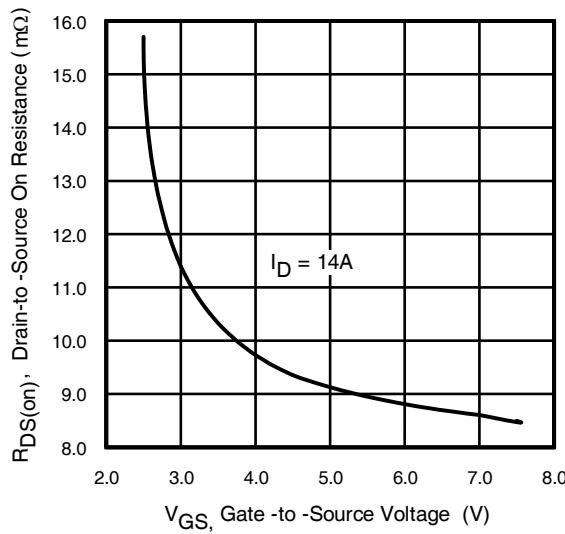

Fig 12. Typical On-Resistance Vs.
- ① Repetitive rating; pulse width limited by max. junction temperature.
- ② Pulse width $\leq 400\mu\text{s}$; duty cycle $\leq 2\%$.
- ③ Surface mounted on 1" in square Cu board.
- ④ Starting $T_J = 25^\circ\text{C}, L = 2.3\text{mH}, R_G = 25\Omega, I_{AS} = 14\text{A}$. (See Fig. 12)